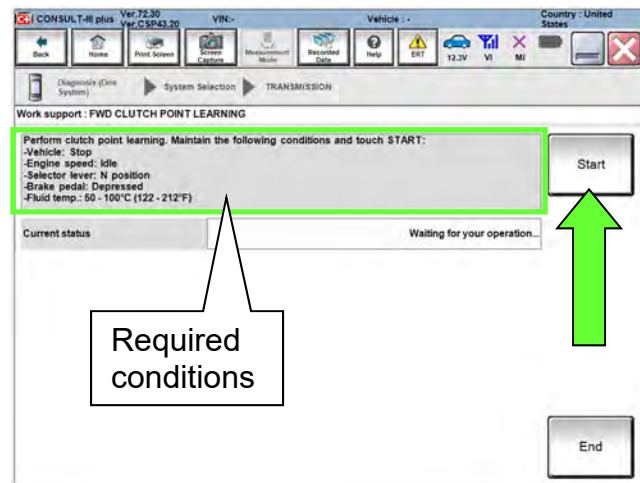

Figure 170
- Confirm that all of the conditions indicated in Figure 170 are being met.
169. While maintaining all conditions shown in Figure 170 and the Current status indicates EXECUTING, shift the CVT into **R** and then wait until the Current status indicates COMPLETED.